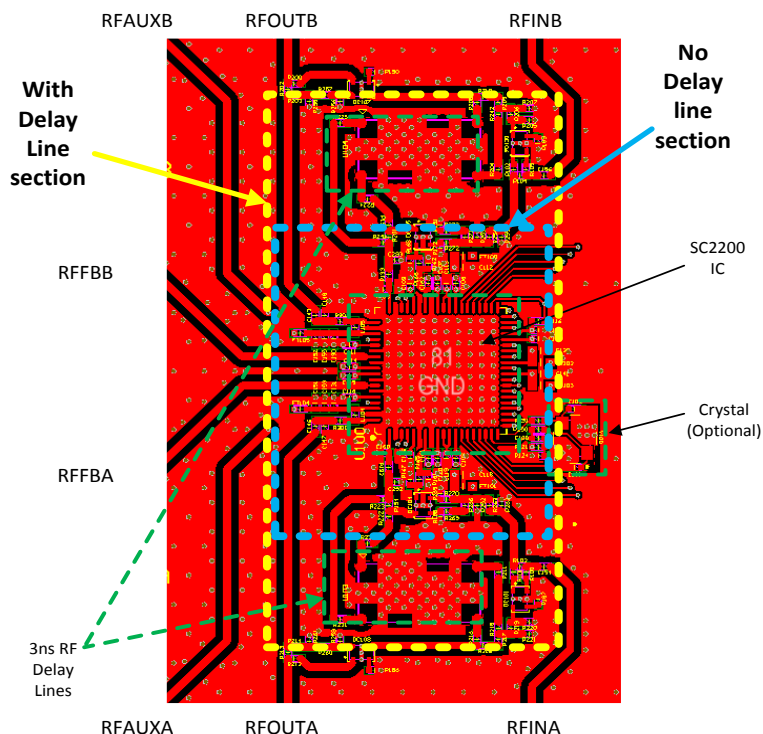

Figure 3: SC2200 Core Layout Floor Plan (with 3ns Delay Lines)
The RF core layout floor plan is shown in Figure 3. For each Path (\*= A or B), the RF input is split into two signals called RFIN\* and RFINDLY\*. The RFIN\* signal is provided to the power detector input (PDET) through a splitter to generate the polynomial function of the RF signal envelope.
**IMPORTANT:** Although not represented in Figure 3, it is critical to implement a SPI interface connector or test points to allow firmware upgrades or operating parameter changes with the GUI during the system integration, bring up or production. The connector or test points must have the signals listed in section 8.5.